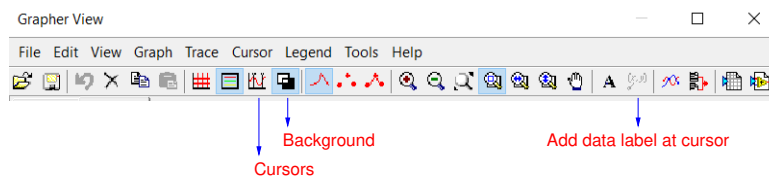

Figure 13: Grapher view menu buttons
- After running a simulation, grapher view window will show the plots. Fig. 13 shows the menu buttons.